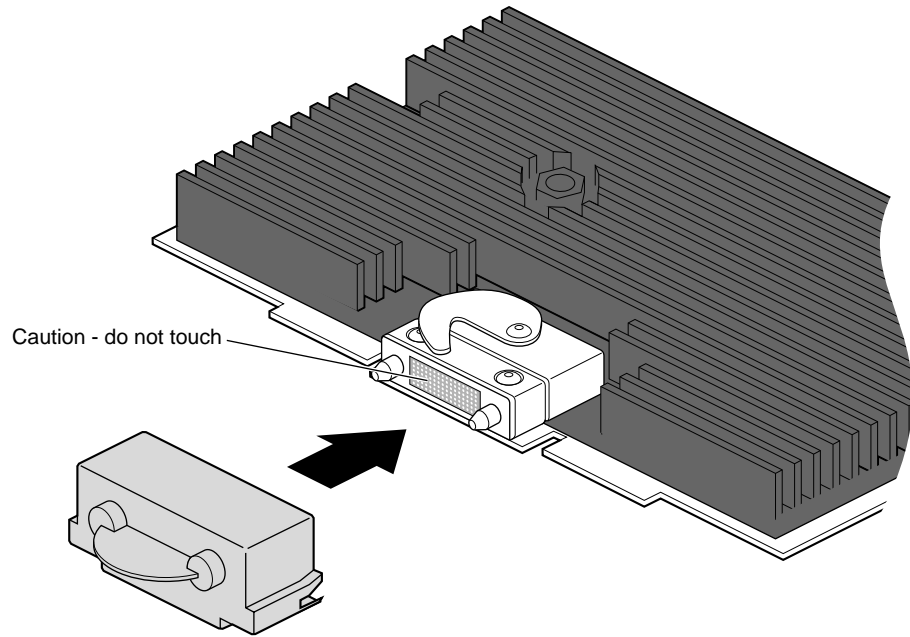

Figure 1-10 Placing a Cap on the XIO Compression Connector
6. Place a cap over the compression connector on each XIO board. Spare caps are shipped with the Octane2 workstation, or you may use one of the caps that came on your new Dual Head XIO module. See Figure 1-10.